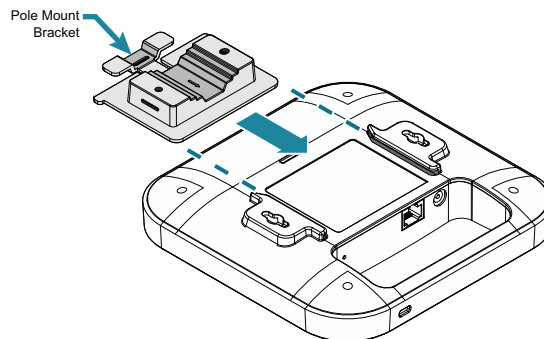

Figure 5. Attaching Pole Mount Bracket to BSAP
1. Attach the pole mounting bracket to the back of the BSAP by sliding the bracket into the recessed area behind the keyed slots until locked in place as shown in Figure 5.